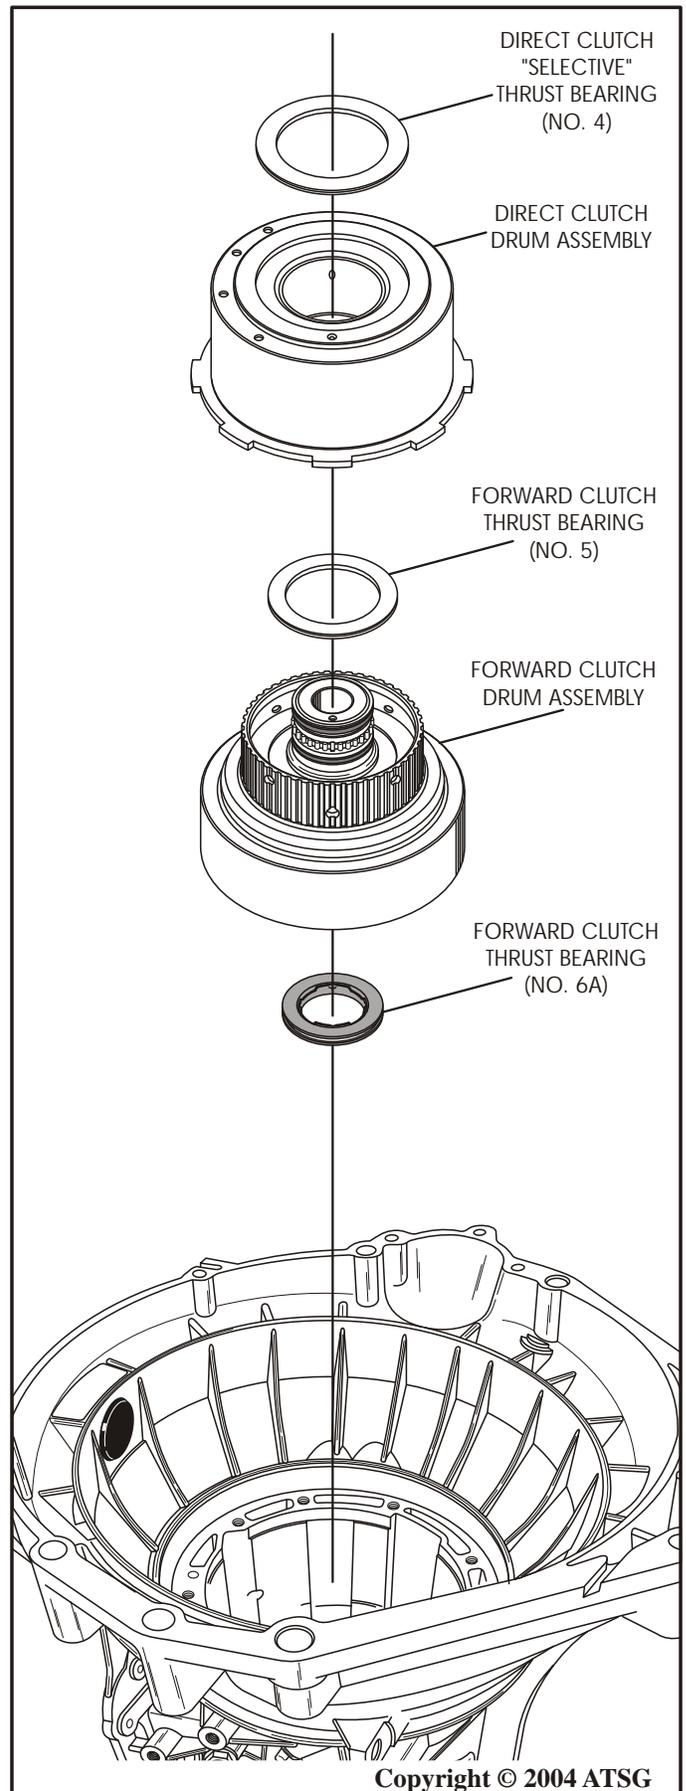

Figure 44
40. Remove and tag for I.D. direct clutch (No. 4) *selective* thrust bearing, as shown in Figure 44.
41. Remove the direct clutch housing assembly and set aside for component rebuild, as shown in Figure 44.
42. Remove and tag for I.D. forward clutch (No. 5) thrust bearing, as shown in Figure 44.
43. Remove the forward clutch housing assembly and set aside for component rebuild, as shown Figure 44.
44. Remove and tag for I.D. the forward clutch (No. 6A) thrust bearing (See Figure 44).